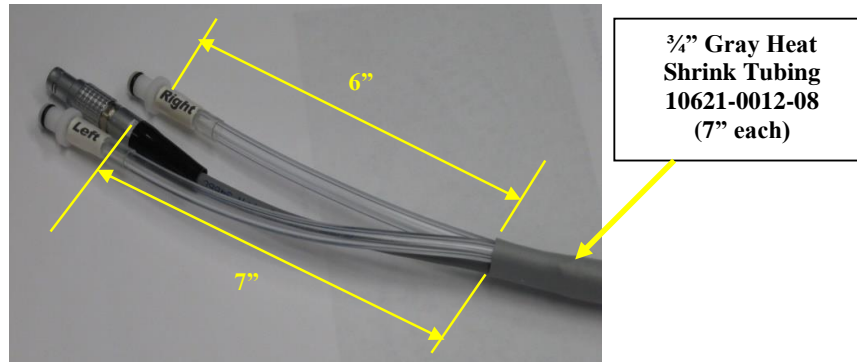

Figure 17
2. If necessary, cut the conductor cable and two main hoses to the length so that the following length is left outside the polyester sleeve for each of them as shown in Figure 17 (a).
Secure the loose sleeve end using a piece of tape. Place a 7" of grey heat shrink tubing (10621-0012-08) to the location where the sleeve ends and shrink it as shown in Figure 17 (b).